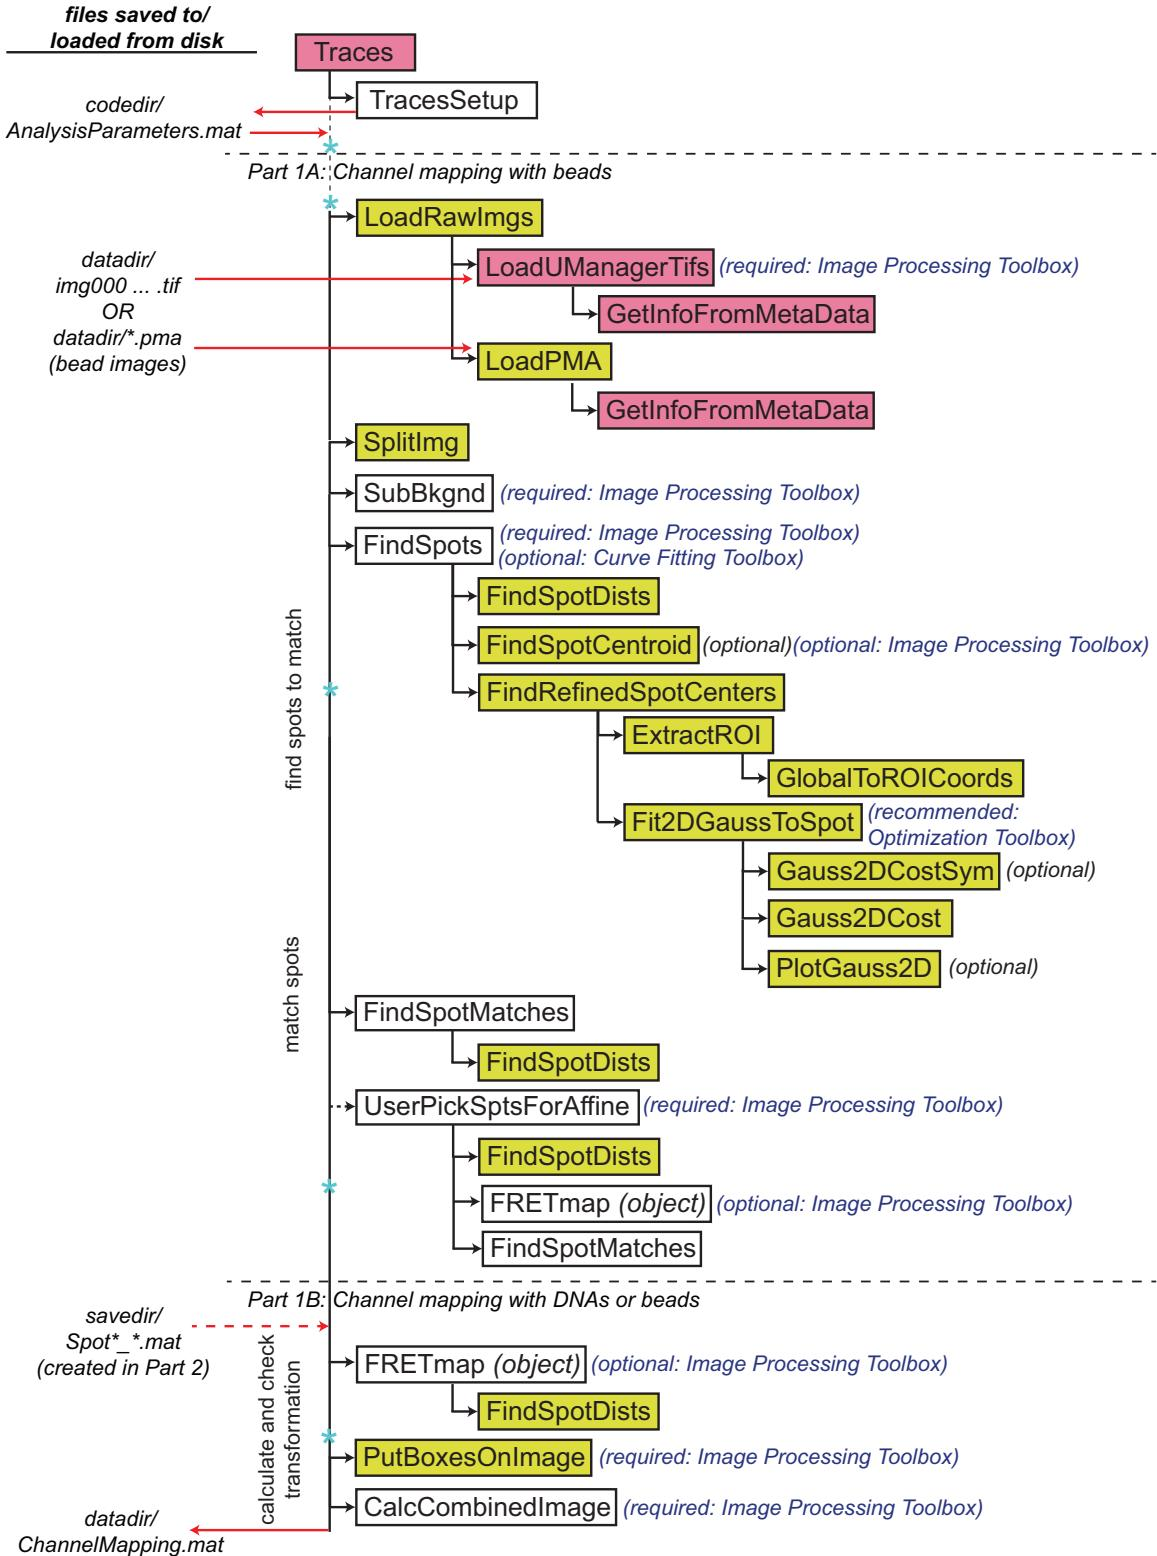

Figure 3: Call graph of the functions for calculating a channel mapping.
- The function `LoadRawImgs` assumes the file and directory structure created by Micro-Manager (summarized in Fig. 1); if you use something other than Micro-Manager to acquire data, and want to use this suite out-of-the-box, you will have to reorganize your data into the directory structure that `LoadRawImgs` and `Traces` recognize. Alternatively, you can modify `LoadRawImgs` and its dependences (see Figs. 3 and 4 below), and some sections of the main `Traces.m` function, to recognize your data structure (those are probably the only two sets of functions you’ll have to modify).
Details of how to run each module, and of what each module does, are discussed in the next section. Figures 3 and 4 show call graphs that diagram the functions that perform each module, with required or optional Matlab toolboxes noted to the right of each function. Functions in colored boxes are “tools” that are or could be called by multiple functions; pink are highly specific to our microscope setup (and, along with the functions in white boxes, can be found in the “core” subdirectory), yellow should be more general (and can be found in the “tools” subdirectory). Blue asterisks indicate interactive sections requiring user input; red arrows indicate files saved to or loaded from disk (dashed lines indicate optional pathways based on user input).